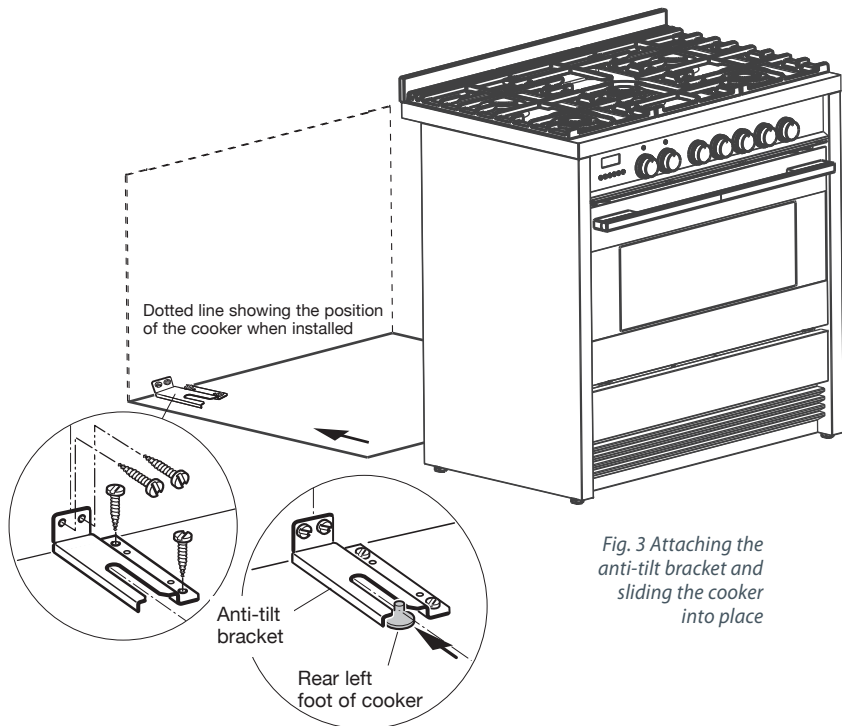

Fig. 3 Attaching the anti-tilt bracket and sliding the cooker into place
- 1 Drill four 8mm diameter holes for the fixing screws (two in the wall and two in the floor-see Fig.3) and insert the plastic plugs supplied.
- 2 Attach the anti-tilt bracket to the floor and rear wall using the four screws supplied, as shown in Fig. 3.
- 3 After attaching the anti-tilt bracket securely, slide the cooker into place. Ensure that the left rear foot slides under the bracket, as shown in Fig.3.